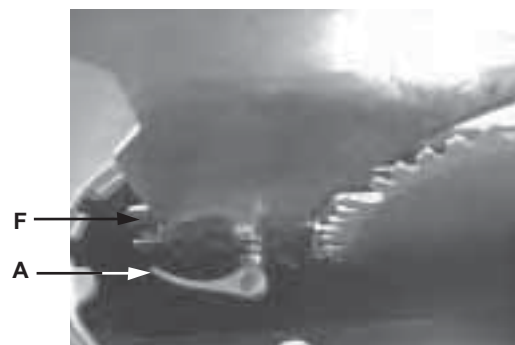

Figure 14
4. Loosen the *lock handle* (A, Fig. 14) and remove the riving knife, making a note as to which direction the riving knife needs to be moved to align it with the saw blade.
4. Tighten the *socket head flat screws* (E).
5. Reinsert the riving knife; tighten the *lock handle* (A, Fig. 14) and check that the saw blade/knife gap is between 3 - 8mm (Figure 16).